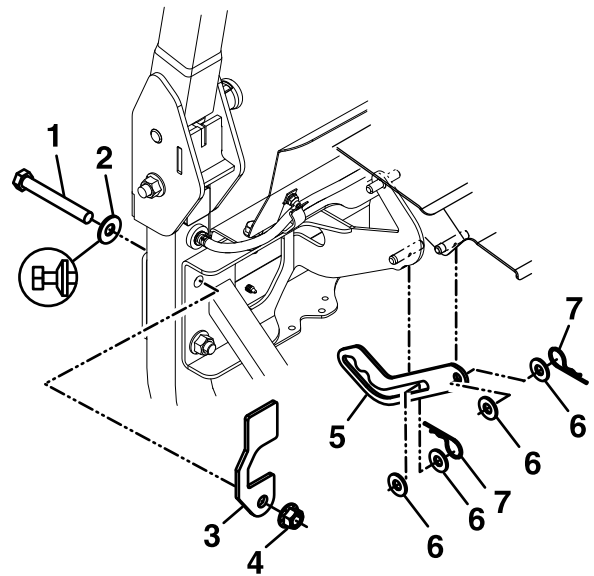

Figure 7
8. Raise the hood and remove the old hood prop and its mounting hardware. Install the new hood prop using four washers and two cotter pins (see Figure 7).
7. Remove and discard the top bolt, washer, and nut on the LH lower ROPS leg. Install the LH ROPS stop using 1/2-13 x 3 3/4 inch Grade 8 hex screw, spring disc washer, and 1/2-13 inch lock nut as shown in Figure 7. Repeat this step for the RH ROPS stop. Torque the ROPS hardware to 100-110 ft-lb (136-149 N-m).